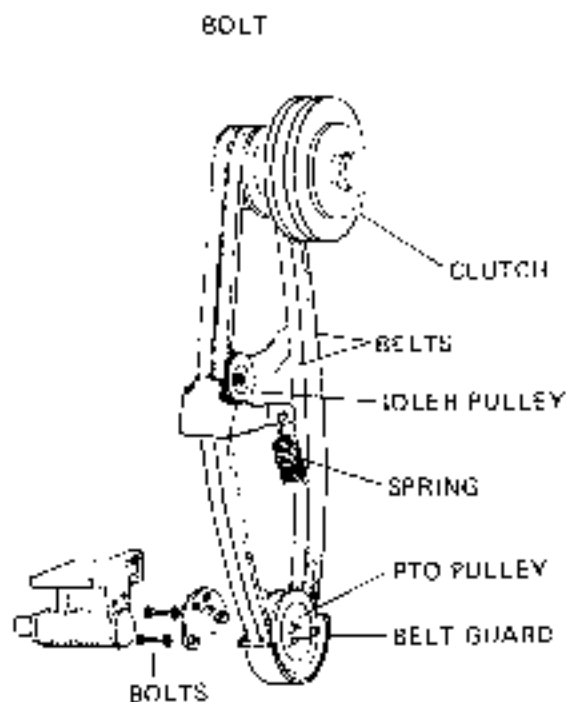

FIG. 6
There are two PTOs on your tractor. One is located under the frame of the tractor and is to be used for the cutting attachment and rotary tiller. This PTO has a disengagement lever located on the RH side of the tractor. It is shown in the picture in the DIS engaged position. It should be in this position whenever it is not in use. (See Fig. 6)
**PTO BELT REMOVAL** To remove the belts: (see Fig. 6)
1. Follow the steps to remove the Power Take Off belts shown in Fig. 6.
2. Attach the Power Take Off belts. (see Fig. 6)